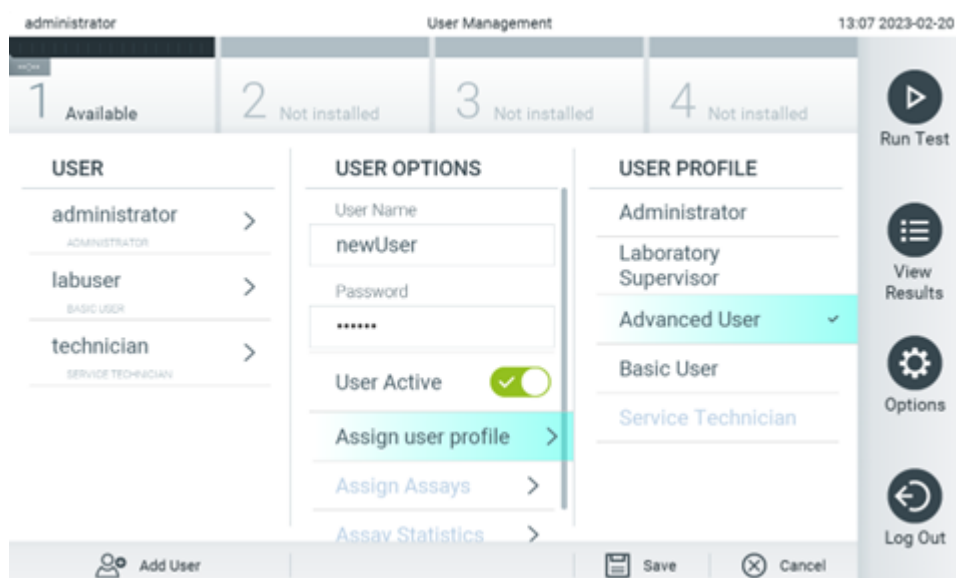

Figure 56. Assigning a user profile to a new user.
4. Press **Assign User Profile** and assign the appropriate user profile (from the list on the right of the content area) to the new user (Figure 56).